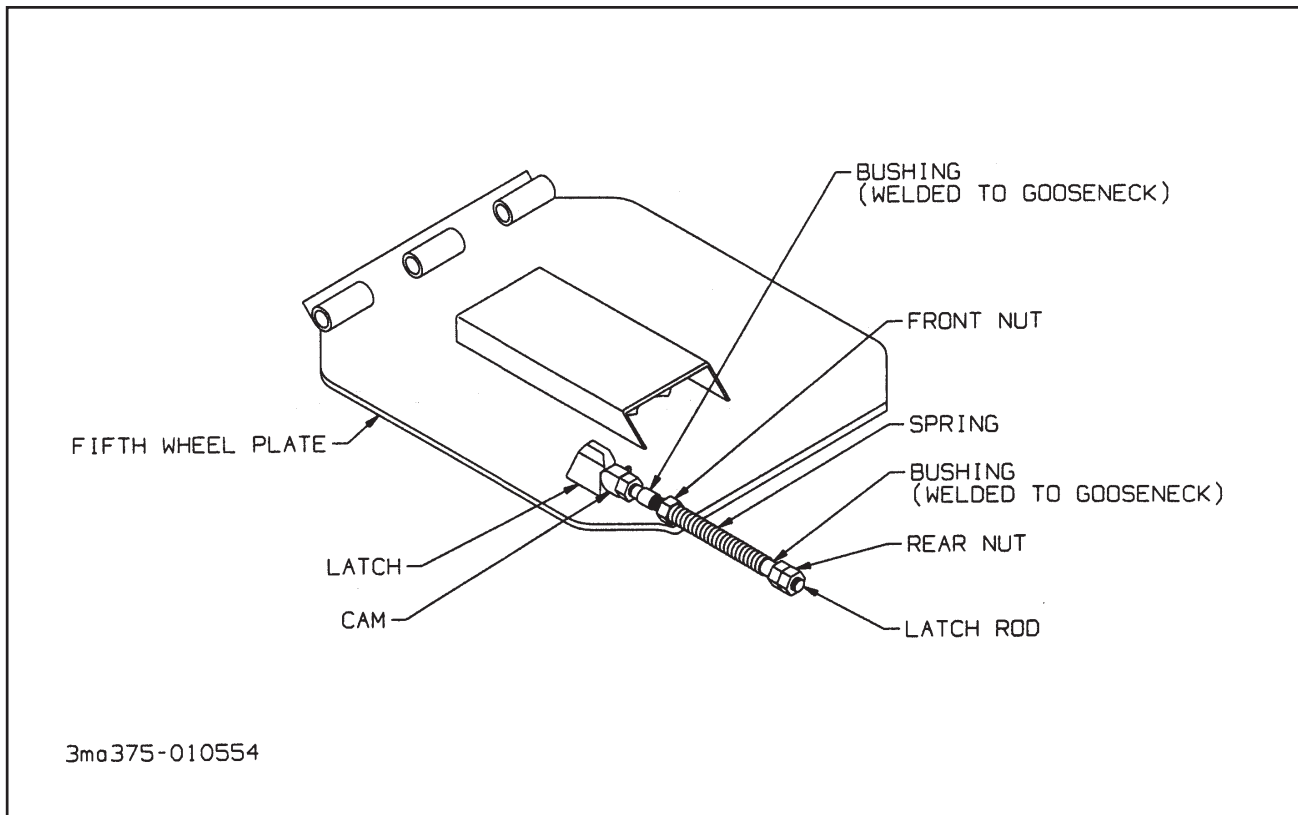

Figure 4-4 Fifth Wheel Latch Adjustment
- a. To adjust fifth wheel latch assembly, support fifth wheel plate and adjust rear nut until the cam just touches the flat surface on the latch (**See Figure 4-4**).